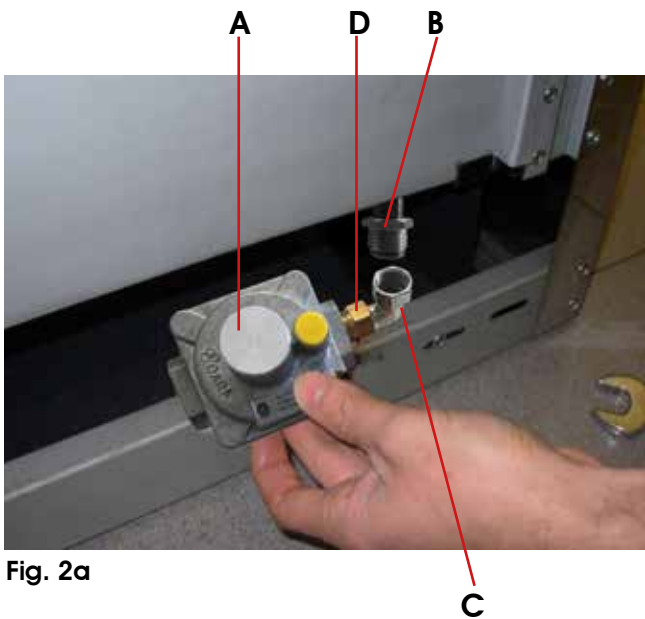

Fig. 2a
- As show in fig. 2a, unscrew "B" part from "C" part.